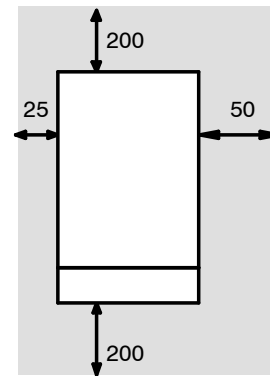

fig. 6.1 (all dimensions in mm)
- To allow maintenance procedures it is necessary to leave the minimum gaps indicated in fig. 6.1.